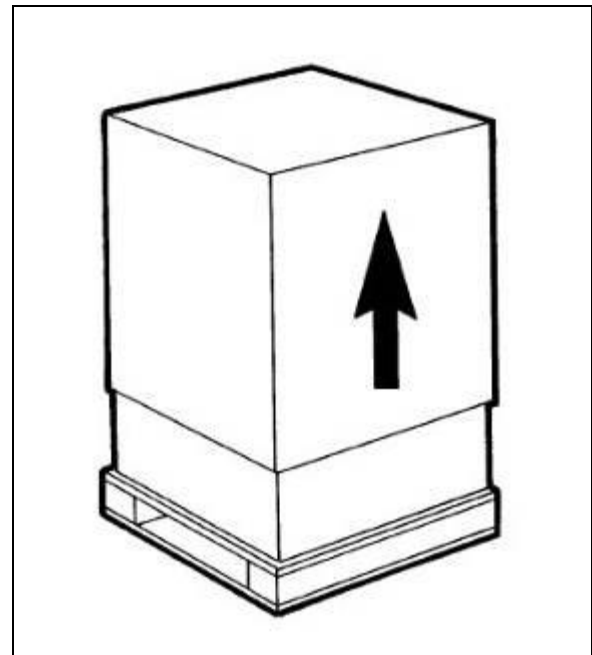

Fig. 19
- a) Remove the packing (fig.19) and preserve it in order to reuse for winter storage.